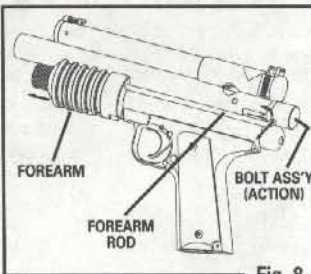

Fig. 8
- With the paintball marker "On Safe" (See Step 2A), and the CO₂ cartridge removed (See Step 3A), grasp the forearm rod and pull it out of the bolt just far enough so that it can be rotated upwards. Do not bend the rod. Slide the forearm and rod forward off the paintball marker (Fig. 8).